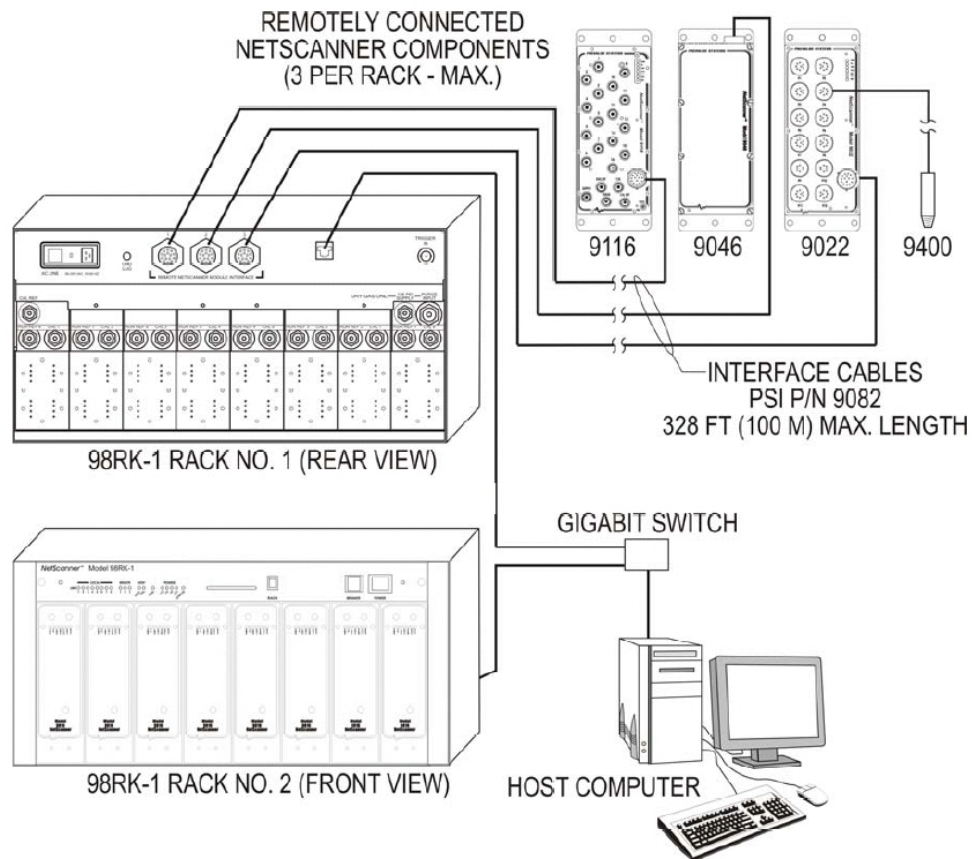

Figure 1.2
The **NetScanner™ System** is a comprehensive, distributed data acquisition system centered around PSI's proven Intelligent Pressure Scanner technology. The rackmount configuration of this system is comprised of **Model 98RK-1 Scanner Interface Racks**, each housing up to eight (8) **Model 9816 Rackmount Intelligent Pressure Scanners** networked via the Ethernet interface. The 98RK-1 chassis provides communication, power supply and pneumatic connections to the 9816 scanners. The 98RK-1 utilizes an integral gigabit switch to connect all scanners to a host computer. Each 98RK-1 can also provide power and communication to as many as three (3) remotely connected NetScanner modules such as the **Model 9116 Pneumatic Intelligent Pressure Scanners, Model 9022 All-Media Intelligent Pressure Scanners, Model 9046 Intelligent Temperature Scanners, and Model 903x Pressure Controllers**. Refer to their respective datasheets for more information on these NetScanner System components. A typical system configuration is shown in Figure 1.2.